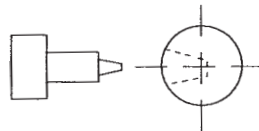

Fig. 4
3. Insert main shaft ❷ into counter weight ❻ and fix it with setscrews ❼. At this time, adjust the hole in the main shaft to the peak of the setscrew and fix the main shaft. (Fig. 4)